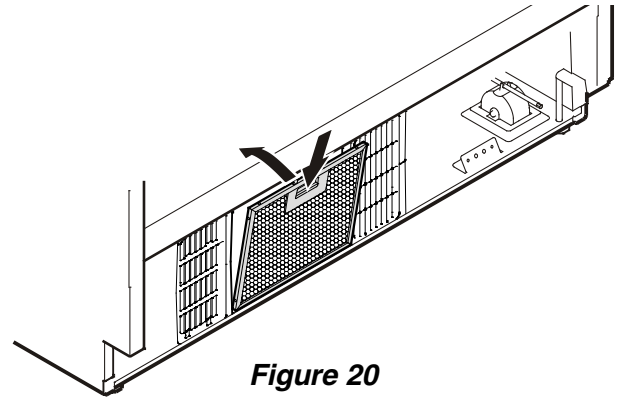

Figure 20
## Mounting the Ventilation Grille - Figure 20, 21
2. Remove the blue protection film from the dust filter provided and insert the filter into its opening in the toe kick area as shown in Figure 20. Attach the filter at the bottom, press down the button and click into place.